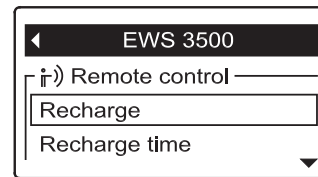

FIG. 60
2. Press the remote's SELECT (○) button to display the device menu (See Figure 60).
3. If necessary, press the DOWN (▼) button to scroll through the menu options until **Recharge** is highlighted in a box (See Figure 60).
6. Press the SELECT (○) button. The display will go back to the conditioner/refiner menu (Figure 60).
2. Press the remote’s SELECT (○) button to display the device menu (See Figure 60).